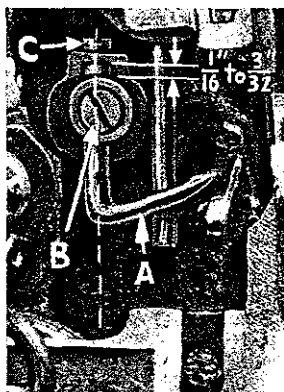

Fig. 8
Insert upper looper (A, Fig. 8) in its holder. Screw (B), holds upper looper in its holder, and permits it to be pushed in or out of turned around its shank. Insert upper looper holder into upper looper shaft, if it is not already in place. Screw (C), on clamp holds the upper looper holder in the shaft. Locate upper looper in its holder so that the shank extends 1/16 to 3/32 inch beyond holder (Fig. 8), FS, FT, FU, GD, GL, GT, and JP.
When the upper looper is at the right end of its stroke, upper looper holder should be set to position upper looper shank approximately vertical on Styles 39500 FS, FT, FU, and GT (Fig. 8).